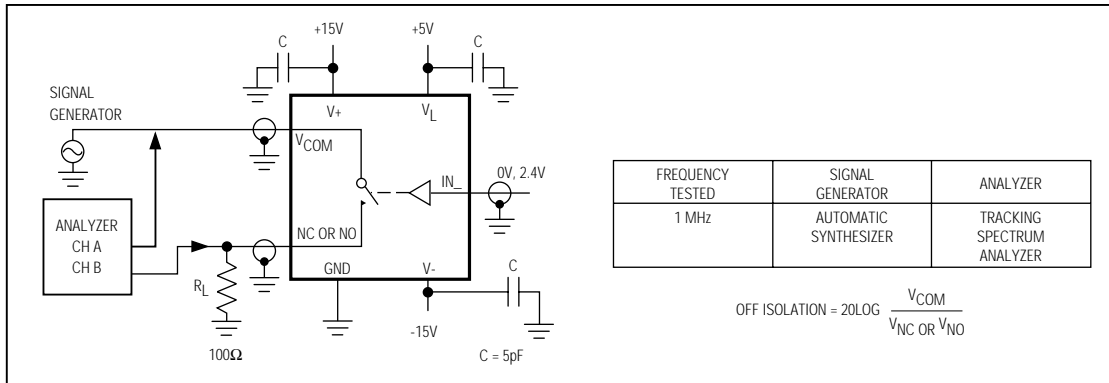

Figure 5. Off Isolation
**Note 6:** Between any two switches. See Figure 5.